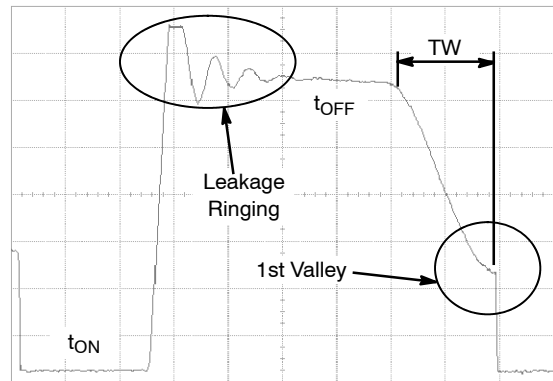
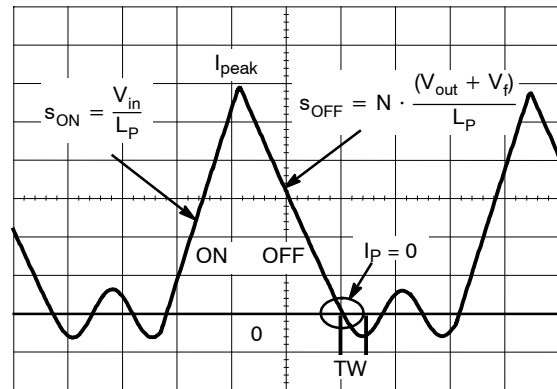

Figure 7. Typical Quasi-Resonance Waveform
Figure 8. Magnetizing Inductance Current Waveforms
Quasi-Resonance (QR) implies that the controller permanently monitors the transformer core flux activity and ensures Borderline Conduction Mode (BCM) operation. That is to say, when the switch closes, the current ramps up in the magnetizing inductance  $L_P$  until it reaches a setpoint imposed by the feedback loop. At this point, the power switch opens and the energy transfers from the primary side to the secondary (isolated) portion. The secondary diode is now biased and the output voltage “flies back” to the primary side, now demagnetizing the primary inductance  $L_P$ . When this current reaches zero, the transformer core is said to be “reset” ( $\varphi = 0$ ). At this time, we can turn the MOSFET on again to create a new cycle. Figure 7 and 8 portray the typical waveforms with their associated captions. If a delay  $TW$  is introduced further to the core reset detection and before biasing the power MOSFET, the drain signal  $V_{ds}(t)$  has the time to go through a minimum, also called valley. Therefore, when we will finally reactivate the power MOSFET, its drain-to-source voltage will be minimum, reducing capacitive losses but also its gate-charge value, since the Miller effect gets diminished at low  $V_{ds}$ .
The D flip-flop output is high, the MOSFET is enhanced and current grows-up in the primary winding. This is the *on* portion of Figure 8, left side of the triangle. When the driver output went high, its rising edge triggered a 8  $\mu s$  timer. This 8  $\mu s$  timer provides a true frequency clamp by driving the D-input of the flip-flop. Now, when the peak current reaches the level imposed by the feedback loop, a reset occurs and the flip-flop output comes low.
As one can see from Figure 7, a parasitic ringing takes place at the switch opening: this is the leakage inductance contribution. Unfortunately, this leakage can be detected as a core reset event if no precaution is taken. This explains the presence of the 3  $\mu$ s blanking timer that prevents any restart before the completion of this circuit. After leakage, the voltage applied over the primary winding is an image of the output voltage: this is the flyback level, or plateau level, equal to  $N(V_{out} + V_f)$ , with N the turn ratio between the primary and the secondary,  $V_{out}$  the output voltage and  $V_f$  the secondary diode forward drop. We are on the right portion of Figure 8, OFF portion, the secondary current ramping down. If we now observe the voltage on the auxiliary winding, we will see something like what Figure 10 shows where the plateau lasts until the core is reset. At this reset event, a natural ringing takes place whose amplitude depends on the ratio N and  $V_{out}$ . A comparator observes this activity and detects when the voltage drops below ground, actually below 45 mV typically. In Figure 9, one can see the ESD protection arrangement which introduces a small capacitive component to Pin 3 input. This capacitive component associated with the demagnetization resistor can thus realize the necessary above TW delay.
Therefore, we can see that for various switching frequency values (dependent on the input condition if the output demand is fixed), the converter will permanently adjust the peak current  $I_p$  to keep the output power constant. By manipulating the slope definitions  $S_{ON}$  and  $S_{OFF}$  (see Figure 8), we can show that the peak current is defined by: